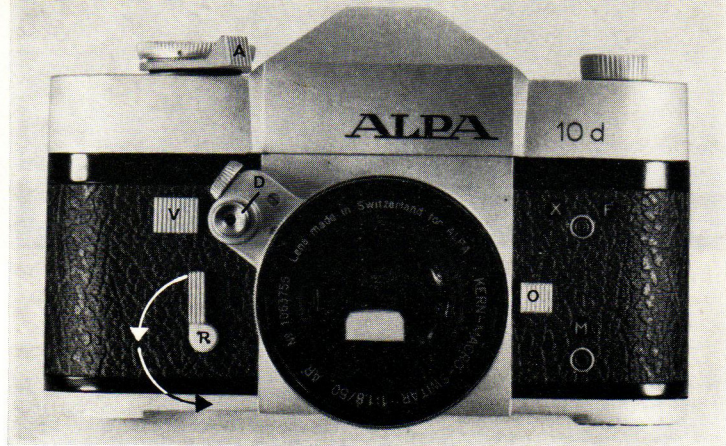

Fig.2
Located on the front of the ALPA 10d (D Fig. 2) the hair-trigger release instantaneously operates the quiet, lightning-fast reflex-mirror and smooth-gliding, vibration-free shutter. Press your thumb against the camera back in the opposite direction, so as to hold your ALPA as steadily as possible. The conical thread inside the release button accepts a cable release (see page 21). All lenses with automatic diaphragm have integrated release buttons, which in turn depress the release button on the camera. The flip-up reflex-mirror immediately returns to its normal position, after the shutter is closed, even if you keep the release button depressed. Any vibration you may feel is caused by the flipping down of the mirror, which has no longer any influence on the sharpness of the picture.
The shutter release lock (V Fig. 2)
The built-in selftimer (R Fig. 2) can be adjusted from 1-20 seconds. Turning the lever to its extreme position corresponds to a delay of approximately 20 seconds. If moved 90° only, the delay will be about 6 seconds.
The extremely gentle release by the selftimer permits vibration free exposures, especially useful at slow shutter speeds. If for any reason a picture is not taken after the selftimer has been set, simply lock the release button (V Fig. 2), then keep the release button depressed until the lever (R) returns to its original position.
The upper X and F contact (Fig. 2) is for synchronization with electronic flash at shutter speeds up to 1/60 second. If you try faster speeds, only
The lower M contact (Fig. 2) is for synchronization with class FP bulbs for focal plane shutters. They have a long peak that gives uniform illumination over the entire image, at most shutter speeds.
All ALPA lenses are supplied in snug fitting, quick-change bayonet mount. Depress the lens lock button (Fig. 2)